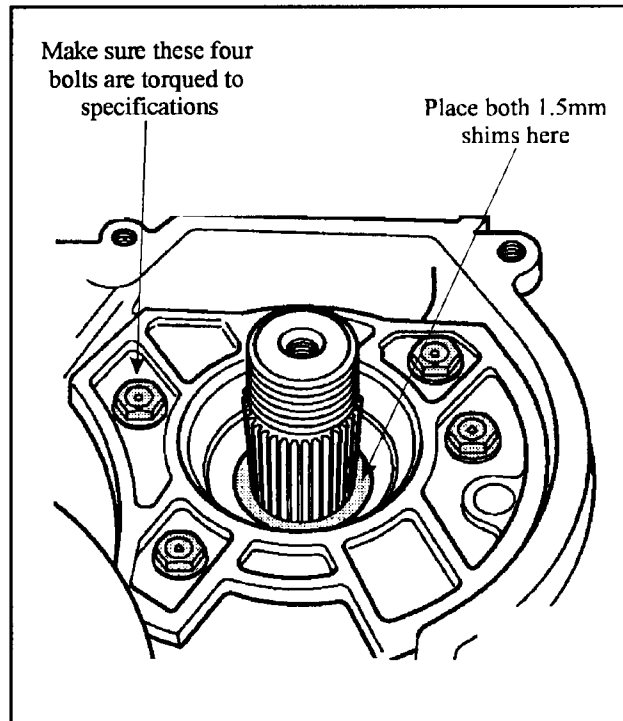

Figure 115
1. Place two 1.5mm (0.060") thick shims onto the pinion shaft as shown in Figure 115.